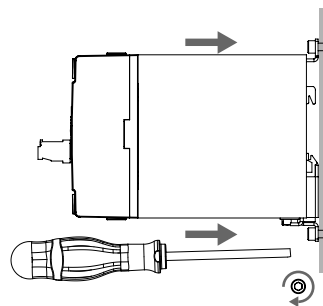

fig. 2 SSR mounted on Panel Mount
- Locate the panel section on which the DR45 SSR will be mounted on (as shown in fig.2)